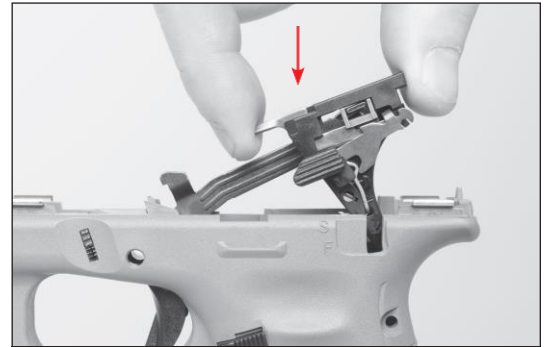

Fig. 107
- Install the trigger assembly into the frame with the trigger bar first. (Fig. 107)